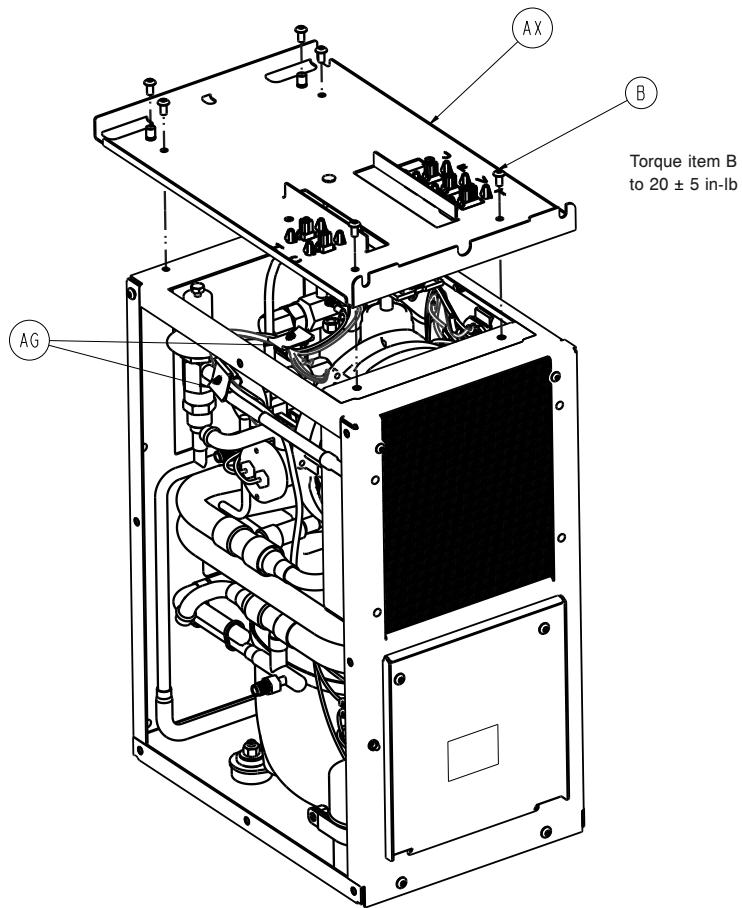

Figure 22: Top bracket
15. Using a T25 torx, remove and save the four screws (B) that secure the top bracket (AX) to thermal unit (Figure 22 on page 34).